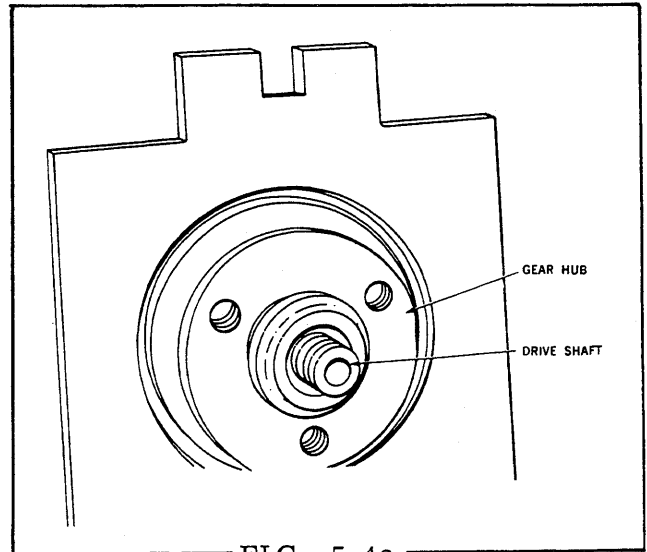

FIG. 5.4a
STEP 4 Assemble the gear hub to the drive shaft, with the notched portion of the gear hub in line with the drive shaft roll pin (Fig. 5.4a).